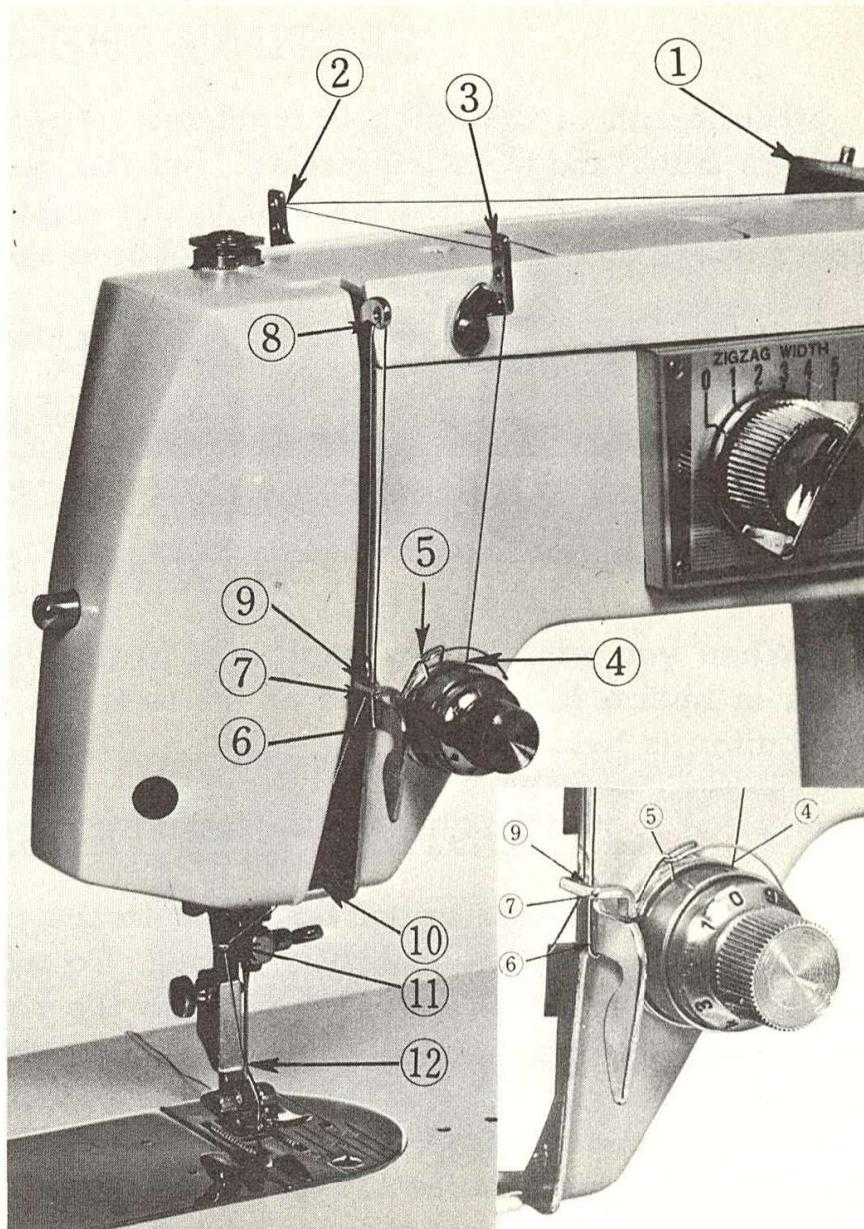

Fig. 12
6. under thread guide bar (⑥, Fig. 12).